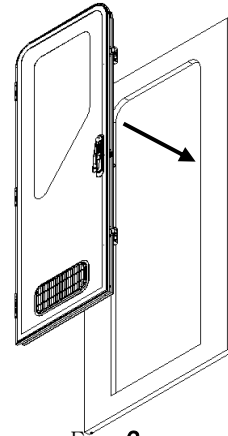

Fig. 3
3) Position the door frame into the caravan cut-out and locate in desired position .as in Fig. 3.